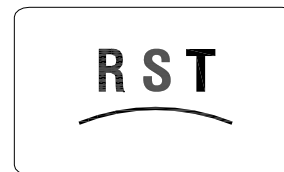

Figure 15 Any phase of voltage is less than 30V.
- As shown in Figure 15, 16 & 17, instrument will display phase sequence detection result for load loop of three-phase four-wire system.